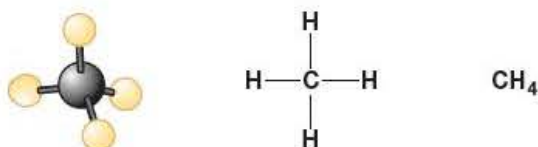

Figure 1.7 ▲
In these compounds of non-metals, the atoms combine in small groups to form molecules. For example, methane contains one carbon atom bonded to four hydrogen atoms. The formula of the molecule is CH_4 . Figure 1.7 shows three ways of representing a methane molecule. Models like that in the first diagram represent atoms as little spheres.
- 4 Draw the various ways – like those for methane in Figure 1.7 – of representing the following compounds: